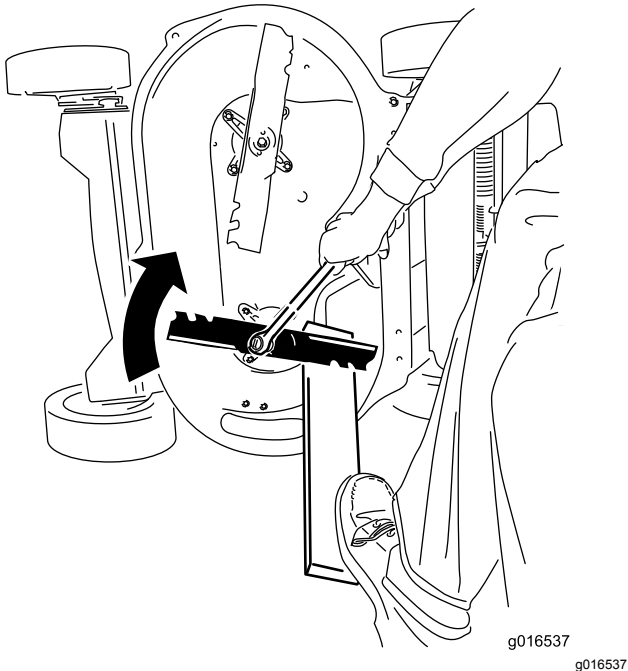

Figure 42
2. Steady each blade with a board and turn the blade bolt clockwise with a torque wrench as shown in Figure 42; torque each blade bolt to 82 N·m (60 ft-lb).